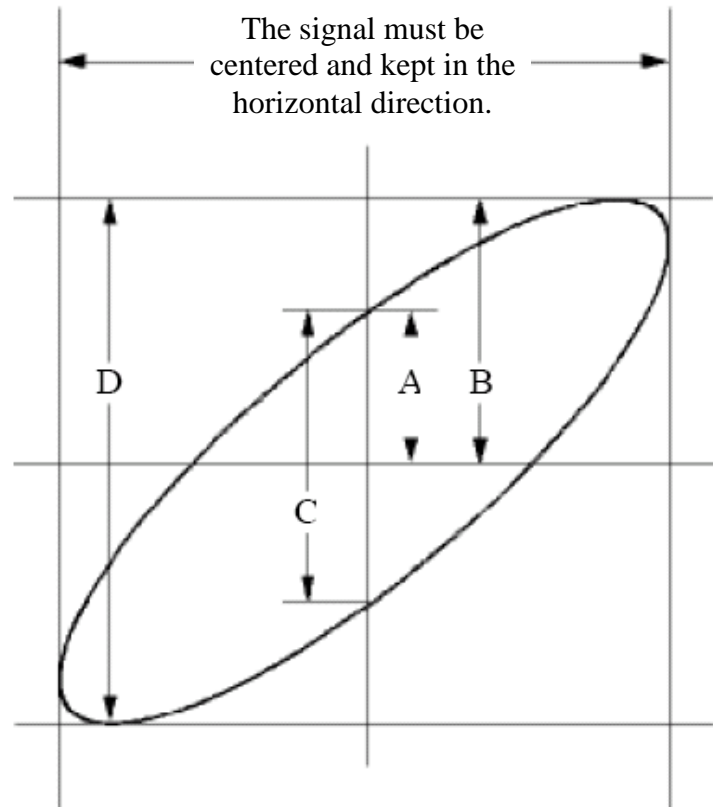

Figure 9-6 Lissajous Graph
- (1) Set the probe menu attenuation coefficient for **10X** and that of the switch in the probe for **10X** (see "How to Set the Probe Attenuation Coefficient" on P12).
- (2) Connect the probe of channel 1 to the input of the network and that of Channel 2 to the output of the network.
- (3) Push the **Autoset** button, with the oscilloscope turning on the signals of the two channels and displaying them in the screen.
- (4) Turn the **Vertical Scale** knob, making the amplitudes of two signals equal in the rough.
- (5) Push the **Display** button and recall the Display menu.
- (6) Select **XY Mode** in the bottom menu. Select **Enable** as **ON** in the right menu. The oscilloscope will display the input and terminal characteristics of the network in the Lissajous graph form.
- (7) Turn the **Vertical Scale** and **Vertical Position** knobs, optimizing the waveform.
- (8) With the elliptical oscillogram method adopted, observe and calculate the phase difference (see *Figure 9-6*).